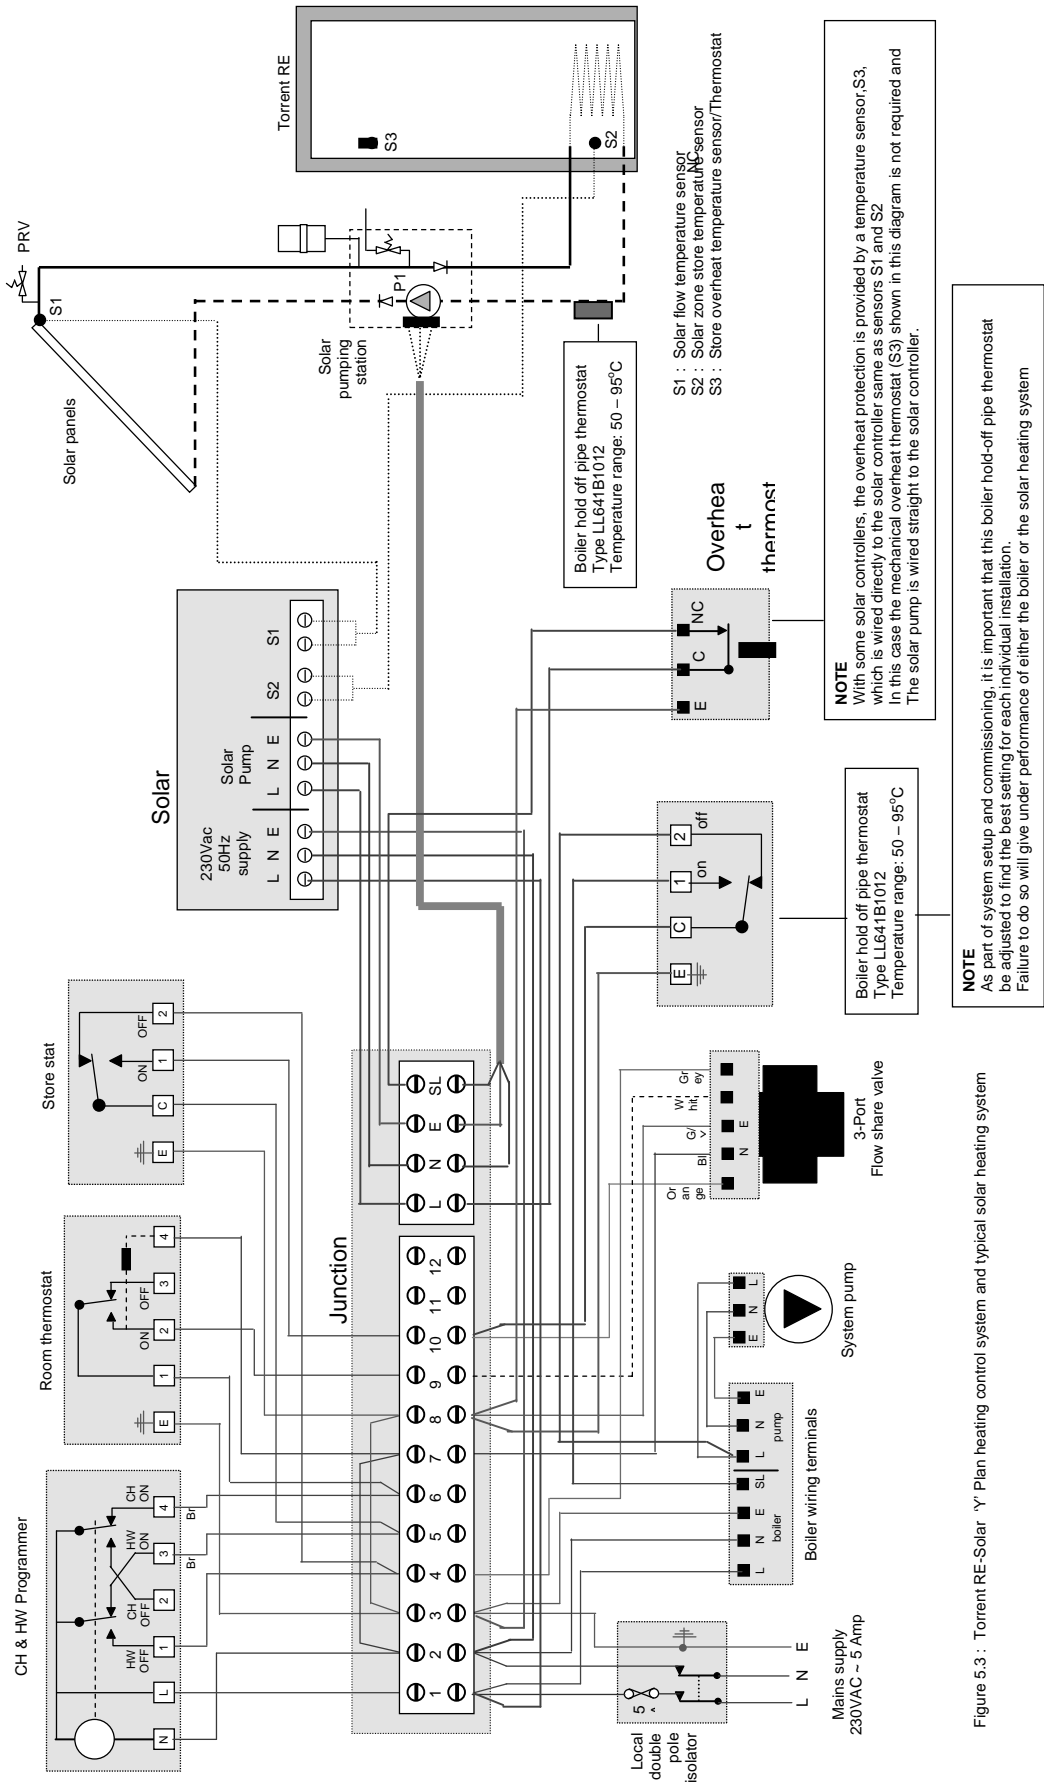

Figure 5.3 : Torrent RE-Solar 'Y' Plan heating control system and typical solar heating system
- Figure 5.3 : Example wiring diagram for a 'Y' Plan central heating system and typical solar heating system for the Torrent RE-solar 'OV' and 'SP' models.